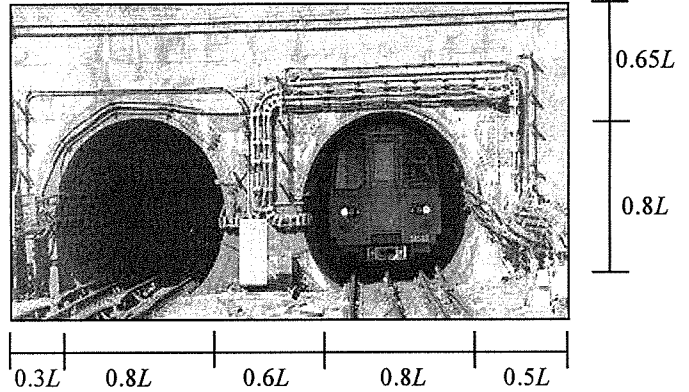

Fig. 1
1. (i) Fig. 1 shows part of the *London Metro Rail* with two circular openings.
- (ii) If thickness of the wall (shown in Fig. 1) is $t_{wall} = (15 + 0.05R_0)$ inch